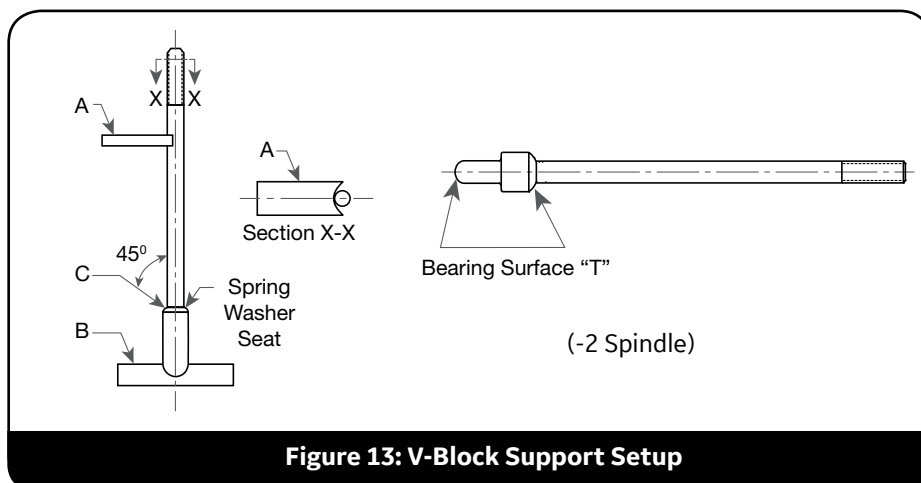

Figure 13: V-Block Support Setup
a. The ball-pointed spindles should be placed in a piece of material, "B" that has been recessed to permit free rotation of the spindle (see Figure 13).
3. The stem is bent (see Figure 13).